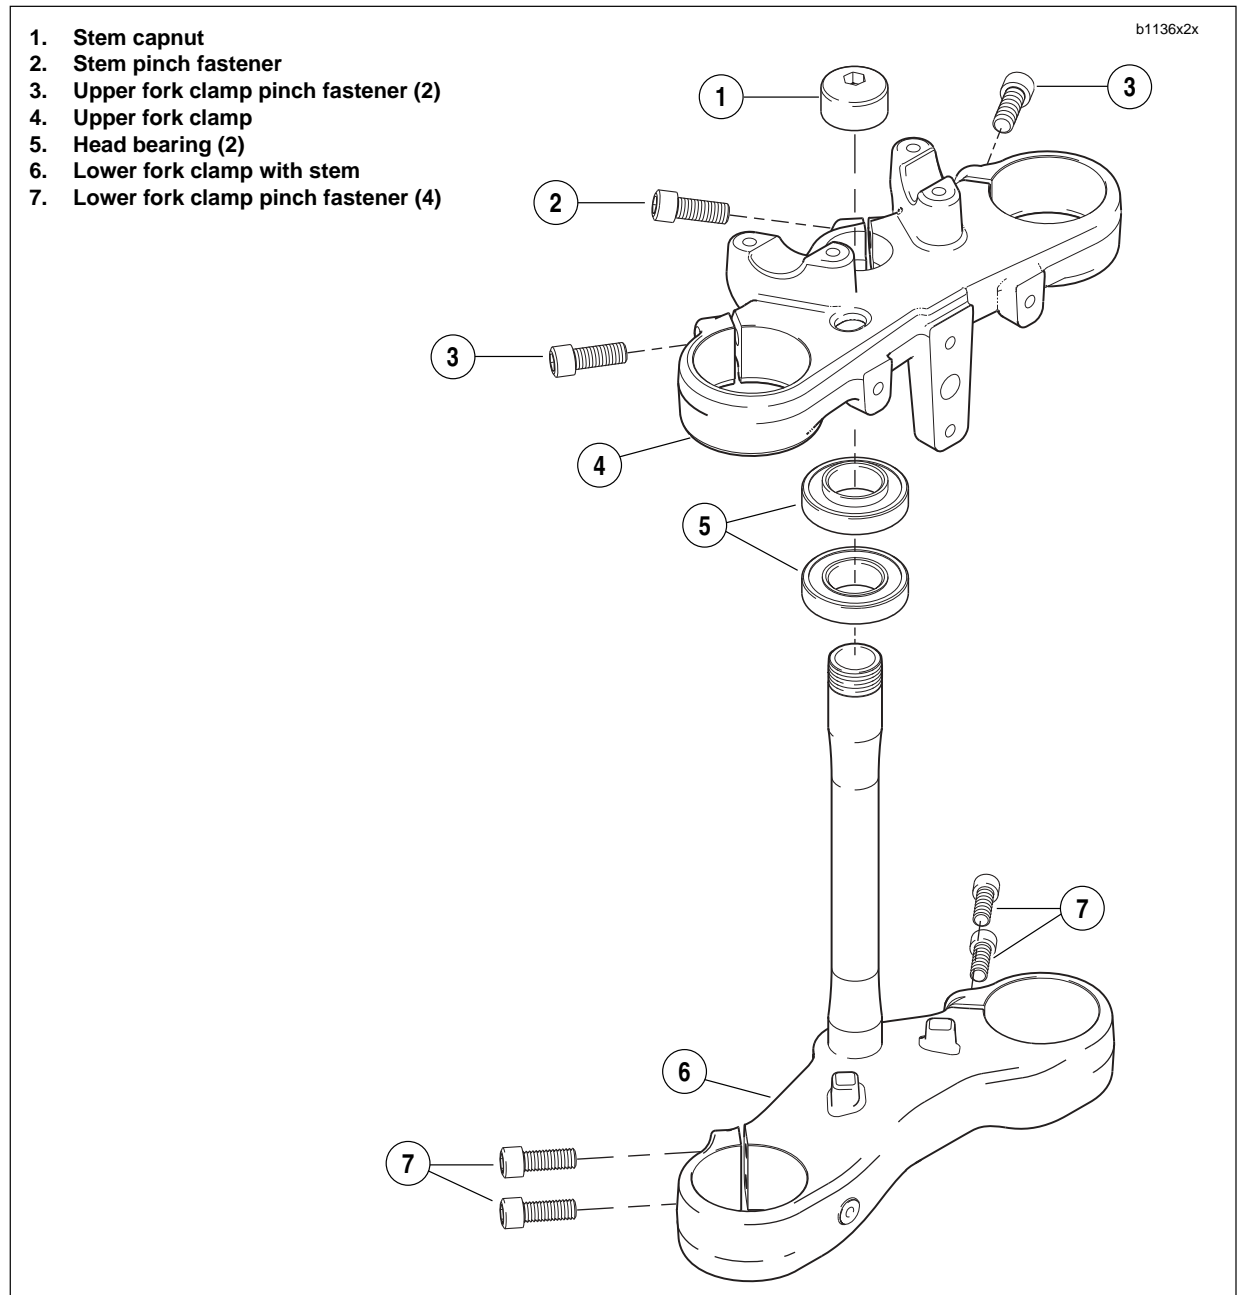

Figure 2-75. Steering Stem Assembly
5. See Figure 2-75. Remove steering stem pinch fastener (2).
6. See Figure 2-75. Hold or brace the lower fork clamp and remove steering stem capnut (1).
7. Remove the upper fork clamp (4).
8. Remove the lower fork clamp (6).
1. See Figure 2-75. Install the lower fork clamp (6) into the steering stem bore and install the upper fork clamp (4).
2. Install steering stem capnut (1). Tighten but do not torque.
- a. See Figure 2-75. Loosen steering stem pinch fastener (2) and upper and lower fork clamp pinch fasteners (3, 7).
- b. Brace wheel while removing steering stem capnut fastener (1).
- c. Remove upper fork clamp (4) and front-end assembly which includes front wheel, steering stem/lower fork clamp.
6. Remove upper and lower steering head bearings (5).